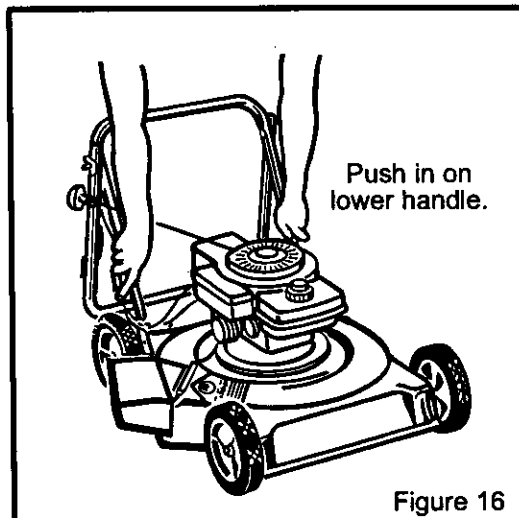

Figure 16
1. Loosen the knobs that hold the upper part of the handle to the lower part of the handle. As you fold the handle, make sure the cables are not around the loose fasteners and do not become damaged. Rotate the upper part of the handle toward the back of the unit (Figure 16).